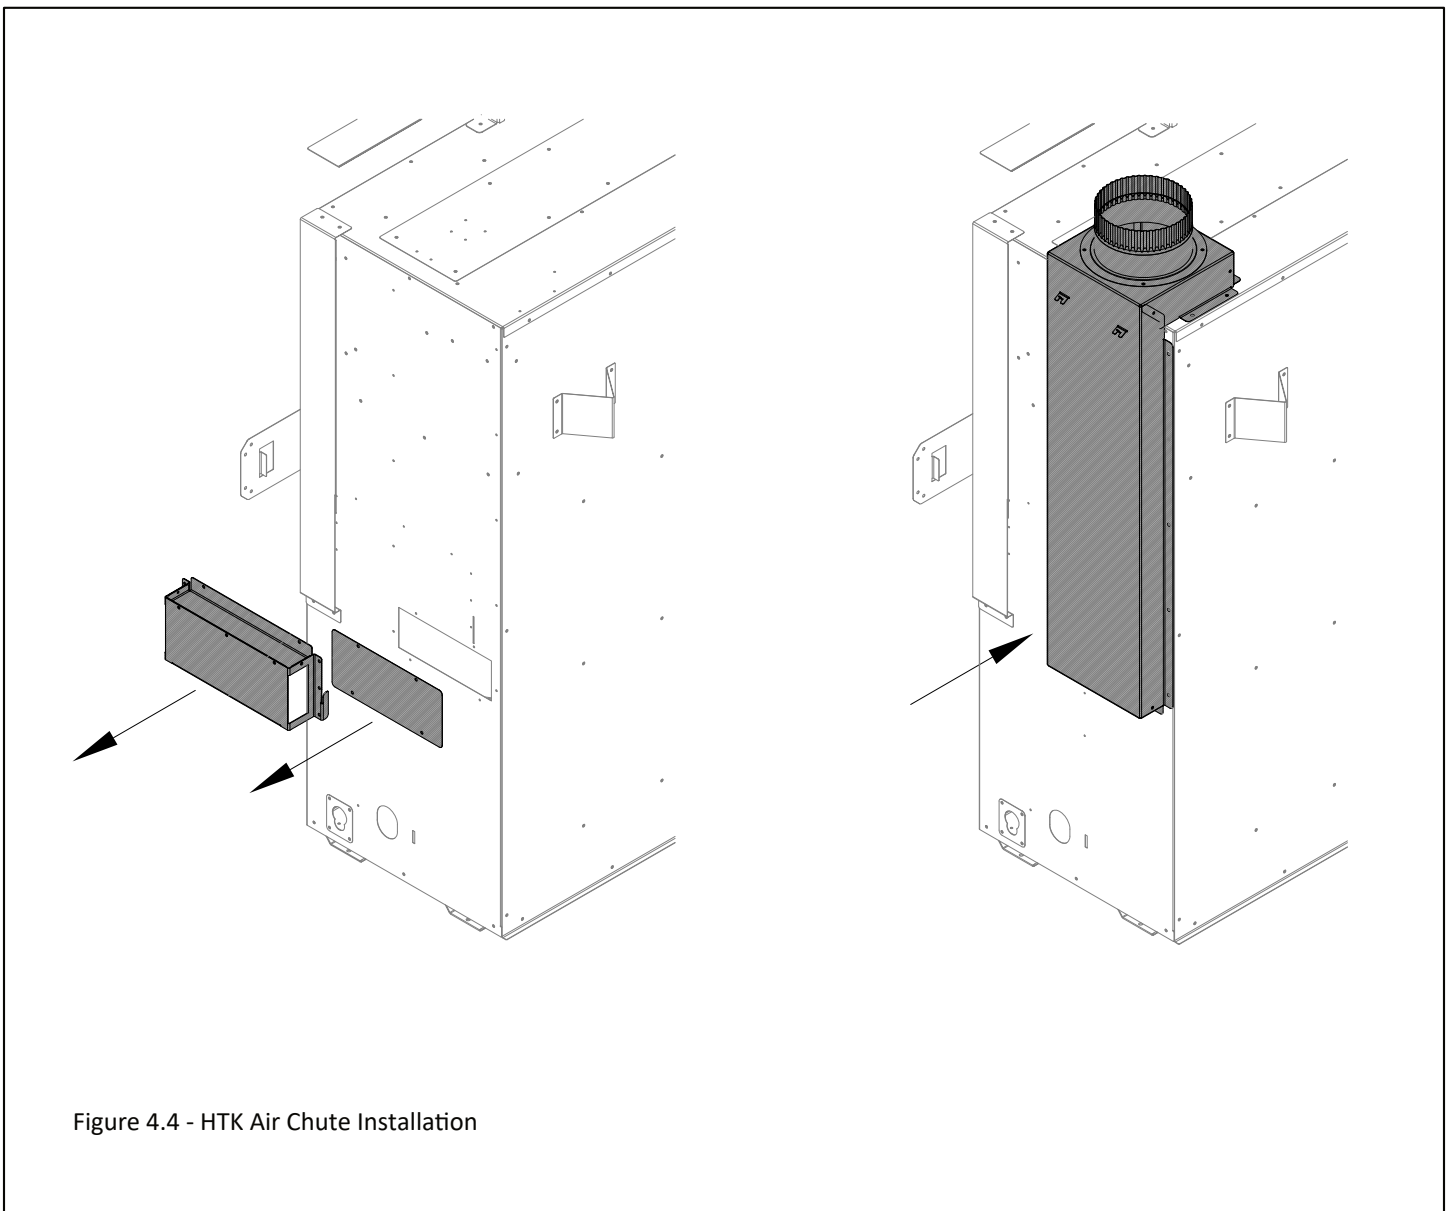

Figure 4.4 - HTK Air Chute Installation
1. Remove the HTK cover plate on the side of the appliance and save these (4) sheet metal screws for later use.
2. Remove the lifting handle and save these (9) sheet metal screws for later use. See Figure 4.4.
3. Install the HTK air chute (Part # HTK-NTL) on the appliance as shown in Figure 4.4. Use the sheet metal screws saved from the previous step and the ones provided with the air chute for installation.